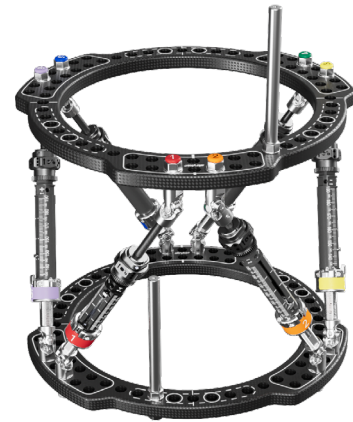

Figure 252
2. Within close proximity to the identified strut, mount an 8mm post on both the proximal and distal rings with short M8 connecting nuts. **(Figure 252)** Use counter-torque to ensure that the connection is secure. Posts may be placed on either the inferior or superior surface of the ring.